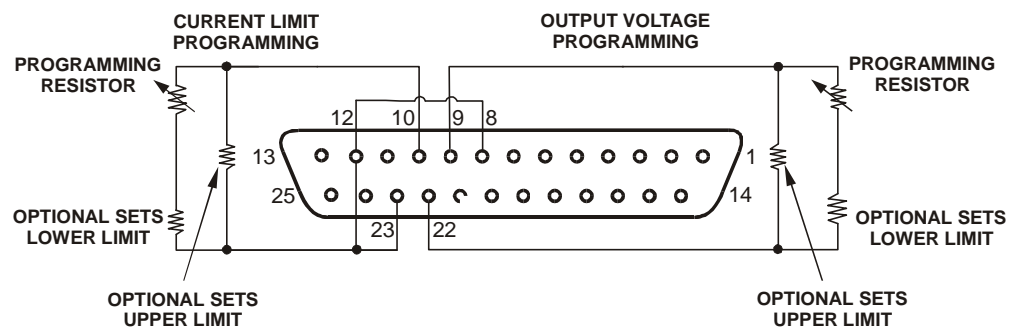

Fig.6-2: Remote resistive programming
- Connect the programming resistors to the mating plug of J1 as shown in Fig.6-2.